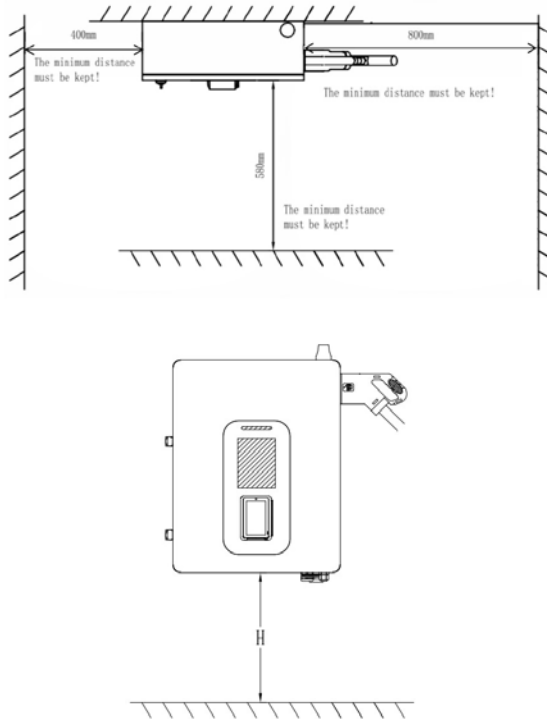

Figure 3.2.1-A Requirement of Charger wall-mounted placement
1. The charger is opened in front . Space should be reserved around. See **Figure 3.2.1-A** for the reserved size. The height of the bottom of the charging from the ground during wall hanging is determined by the customer.